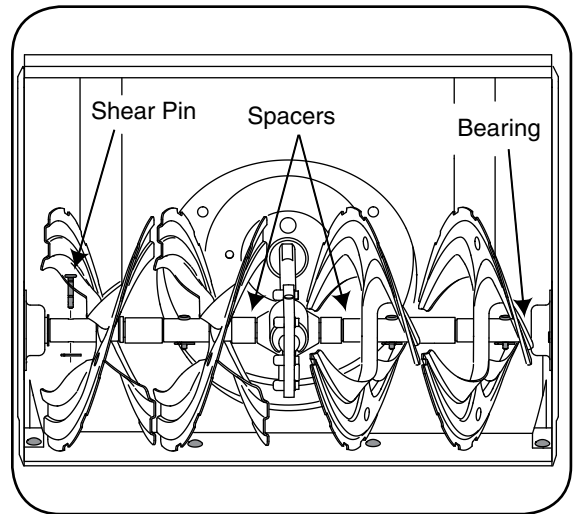

Figure 6-2
At least once a season, remove the shear pins on auger shaft. Spray lubricant inside shaft, around the spacers. Also lubricate the flange bearings found at either end of the shaft, Figure 6-2.
- The augers are secured to the spiral shaft with two shear pins and cotter pins. If the auger should strike a foreign object or ice jam, the snow thrower is designed so that the pins may shear, Figure 6-2.